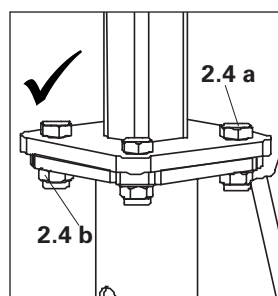

Fig. A3.06c
- ⇒ Always use four M12 bolts (2.4 a), four nuts (2.4 b) and four washers (2.4 c) while fixing drophead to the prop. (Fig. A3.06c)